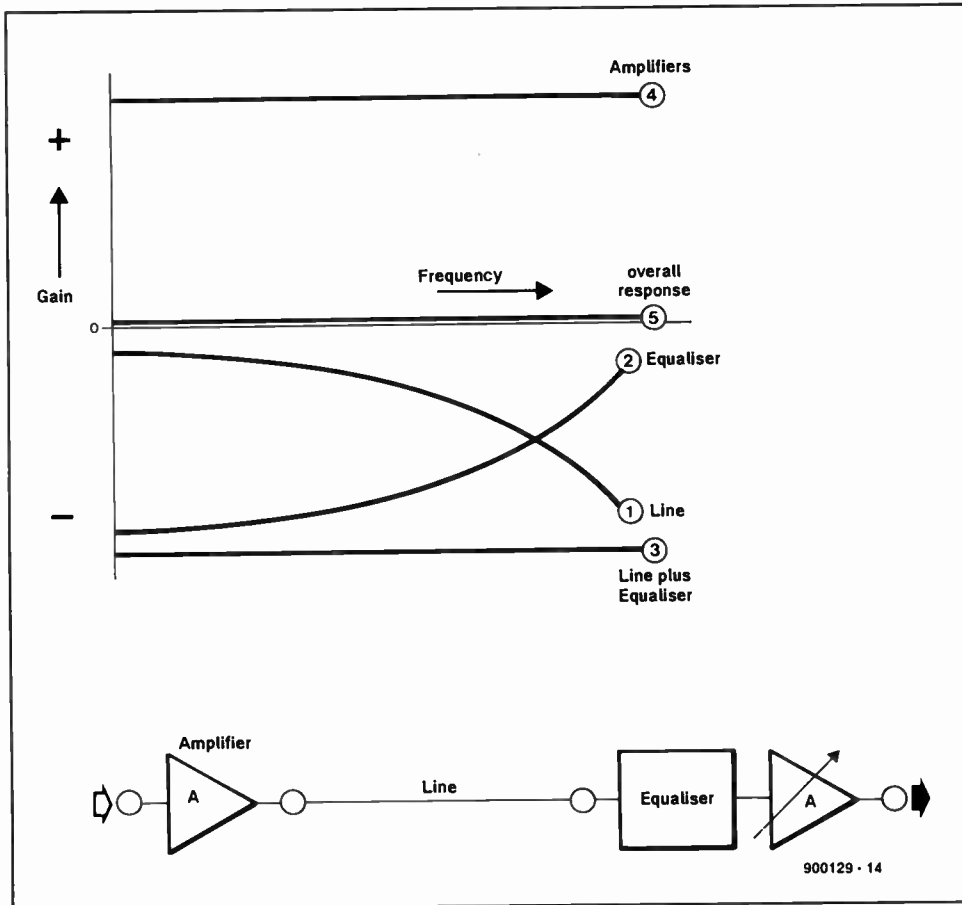
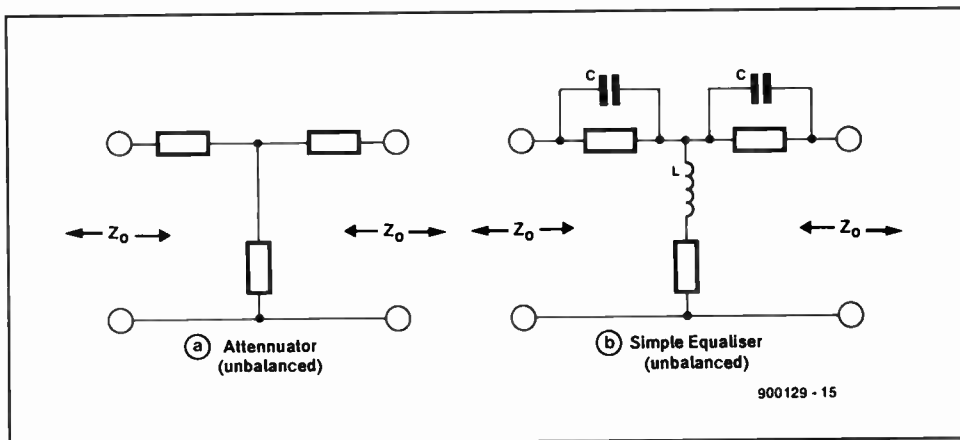

Fig. 4. A simple equalized telecommunication link.
Fig. 5. Attenuators for different frequency bands.
The receiver and the transmitter are best built on the printed-circuit boards shown in Fig. 4. Be sure to fit all polarized components (electrolytic capacitors, ICs, transistors and diodes) the right way around. Also make sure that the two rotary switches on the transmitter PCB are fitted as shown on the overlay (note the '1' mark, and the letters that indicate the poles). On completion of the two units, apply the self-adhesive foils shown in Fig. 6 to the enclosure front panels.
Complete transmission links, say between cities, are usually engineered to produce what is known as 'zero equivalent', that is, the combination of attenuation and amplification equals zero decibels. This is to enable communication to be established readily, either directly between two points, or indirectly via other points without change of amplitude of the received signal. To achieve this result, a complete link includes terminal amplifiers to counteract attenuation and 'equalizers' to counteract the variations of attenuation over the frequency band. An example of the various parts of a link is shown in Fig. 4, starting with LINE (1), EQUALISER (2), and so on. The design of an equalizer starts with the design of an attenuator that has an attenuation which is slightly greater than the variation of attenuation of the line over the operating frequency range. A simple attenuator (for an unbalanced line) is shown in Fig. 5 (a). Reactive elements are then added to reduce attenuation at the higher frequencies as shown in Fig. 5 (b). This produces finally an attenuation/frequency characteristic of line plus equalizer that is approximately flat. The equalizer is located at
When transmission lines are used for communication, it is usual to operate them between resistive terminations that are equal to the characteristic impedances  $Z_0$  of the lines. This produces an attenuation/frequency curve that is smooth as was shown in Fig. 4, curve number 1, enabling a simple equalizer to be designed as was shown in Fig. 5.